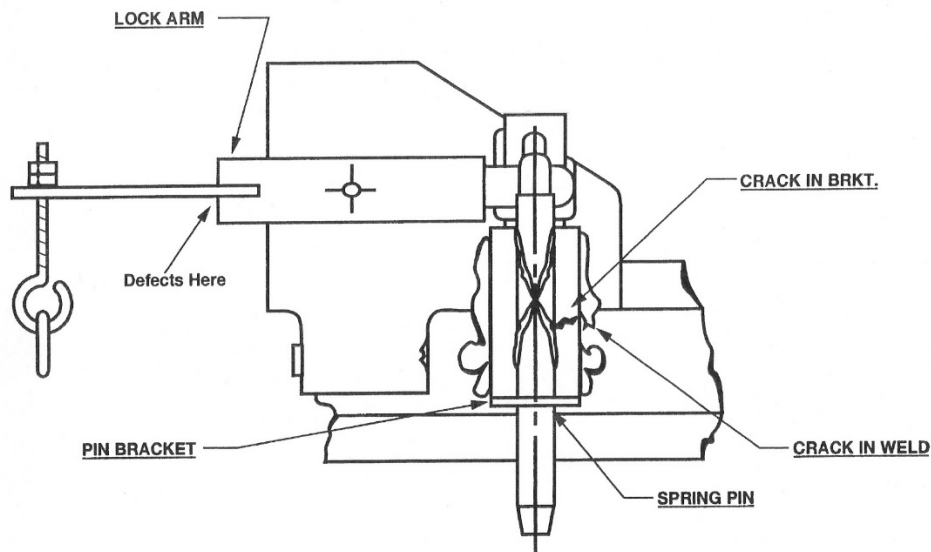

Figure 1
1. The earliest radial doors (models 8004, 8005) built before May 1979 had very narrow upper lock brackets which tended to crack (see Figure 1).